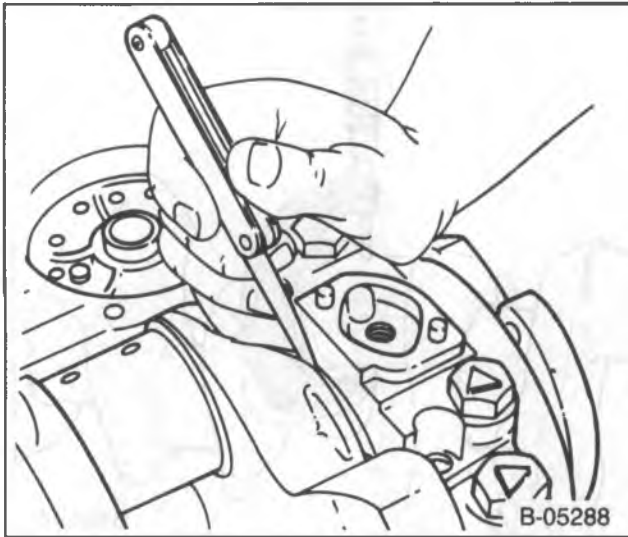

Figure 30—Measuring Crankshaft End Play
**Measure (Figure 30)**
2. With the crankshaft forced forward, measure at the front end of the number three main bearing with a feeler gage (figure 30). The proper clearance is 0.06 to 0.21 mm.